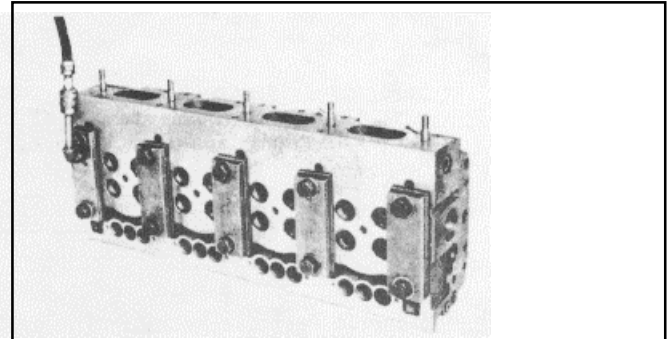

Fig. 6 Cylinder Head Prepared for Pressure Testing
- (a) To seal off the water holes in the cylinder head, assemble tool set J 28454 as follows (Fig. 6.)